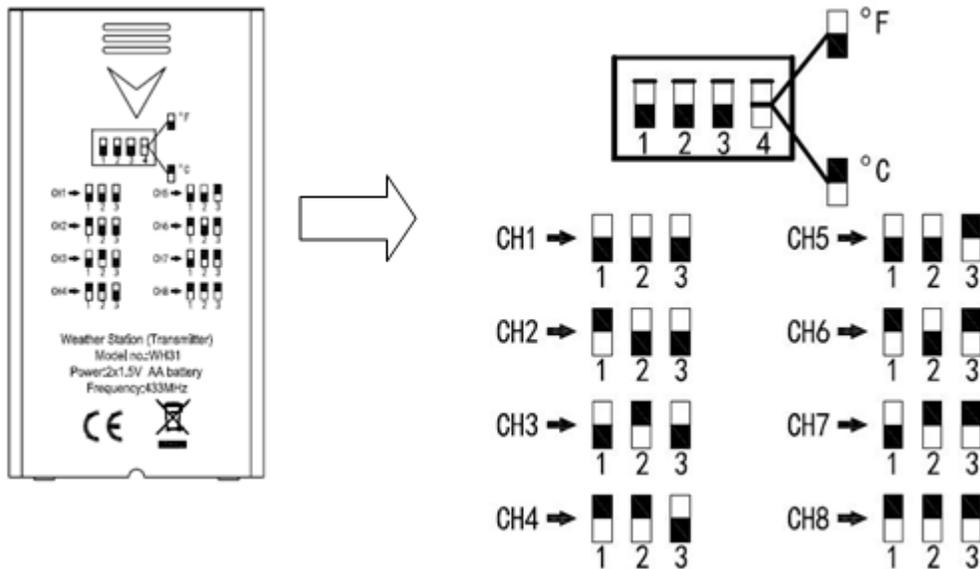

Figure 26
3. **Channel Number:** The ObserverIP supports up to eight transmitters. To set each channel number (the default is Channel 1), change Dip Switches 1, 2 and 3, as referenced in Figure 26.
4. **Temperature Units of Measure:** To change the transmitter display units of measure ($^{\circ}\text{F}$ vs. $^{\circ}\text{C}$), change Dip Switch 4, as referenced in Figure 26.